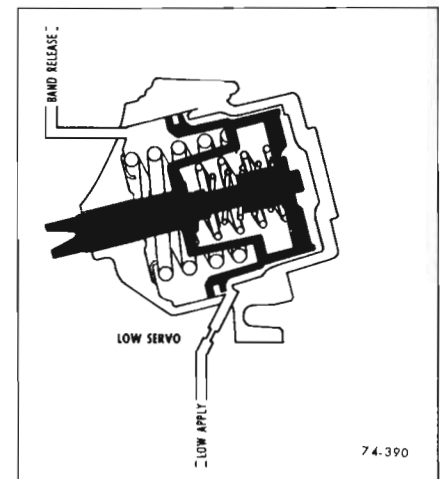

Figure 74-19—Low Servo
**k Low Servo (See Figure 74-19)**